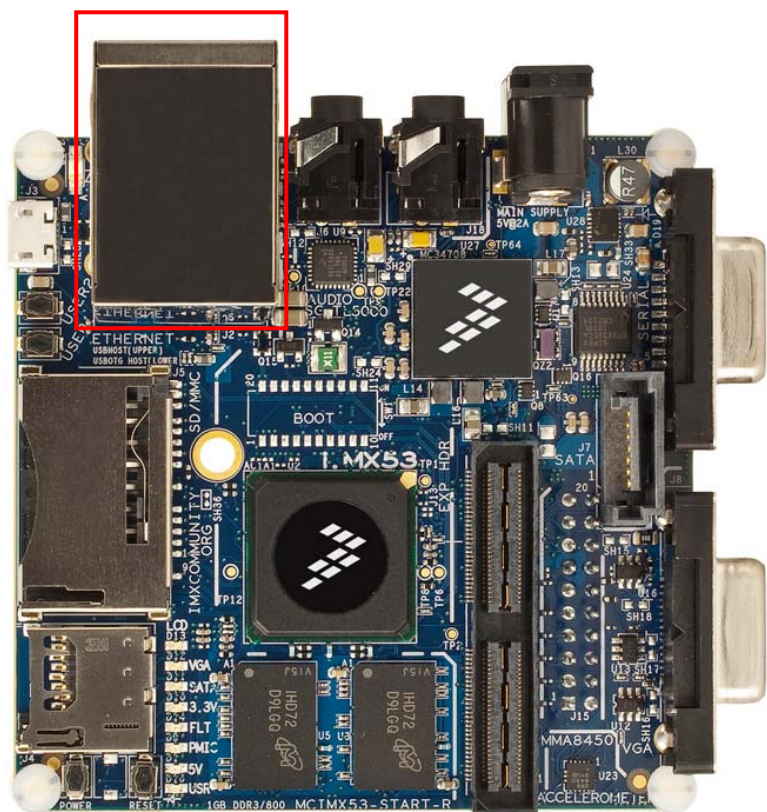

Figure 7. Dual USB Host Connectors (J2)
The Quick Start board has two USB Host only connectors that can be used to support USB devices. The upper USB port is connected to the High-speed (HS) USB 2.0 module of the i.MX53 processor and can support; 1) Any single, high-power USB device, 2) Any combination of USB devices though a self-powered hub not to exceed 500 mA current draw, or 3) Any combination of USB devices through a powered hub. The lower USB port is connected to the High-speed (HS) USB 2.0 OTG module of the i.MX53 processor and is cross-connected with the micro-B USB device connector (J3). As long as the Quick Start board is not connected to a USB Host device through the micro-B USB connector, the same combinations of USB devices can be used on the lower port as used on the upper port. The lower USB port requires configuration as a Host port in software, and is not available as a Host port during the initial boot sequence. USB cables can be inserted into the Dual USB connector at the point shown in Figure 7.